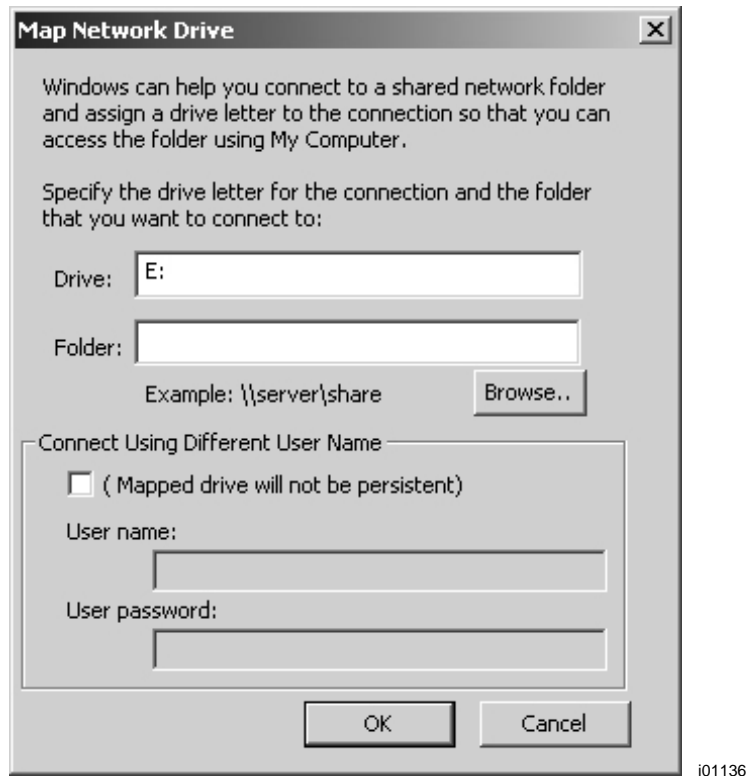

Figure 15.12.6 Enter E: in the Drive box and Browse for the file you shared on your computer.
3. In the Drive box, type in "E:." You must type in both the "E" and the ":". See Figure 15.12.6 below. (Drive letters A through D are used by other drives.)